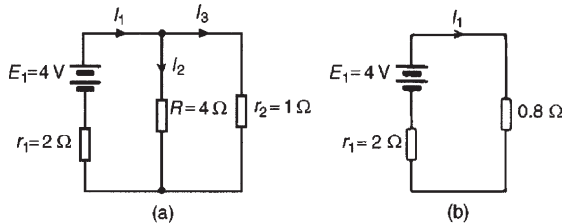
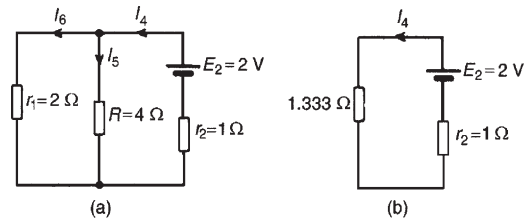
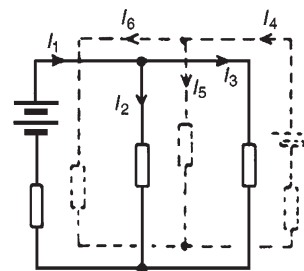

Figure 13.17
Figure 13.18
Figure 13.19
1. Redraw the original circuit with source E_2 removed, being replaced by r_2 only, as shown in Fig. 13.17(a)
2. Label the currents in each branch and their directions as shown in Fig. 13.17(a) and determine their values. (Note that the choice of current directions depends on the battery polarity, which, by convention is taken as flowing from the positive battery terminal as shown.)
From the equivalent circuit of Fig. 13.17(b),
From Fig. 13.17(a),
3. Redraw the original circuit with source E_1 removed, being replaced by r_1 only, as shown in Fig. 13.18(a)
4. Label the currents in each branch and their directions as shown in Fig. 13.18(a) and determine their values.
From the equivalent circuit of Fig. 13.18(b)
From Fig. 13.18(a),
5. Superimpose Fig. 13.18(a) on to Fig. 13.17(a) as shown in Fig. 13.19